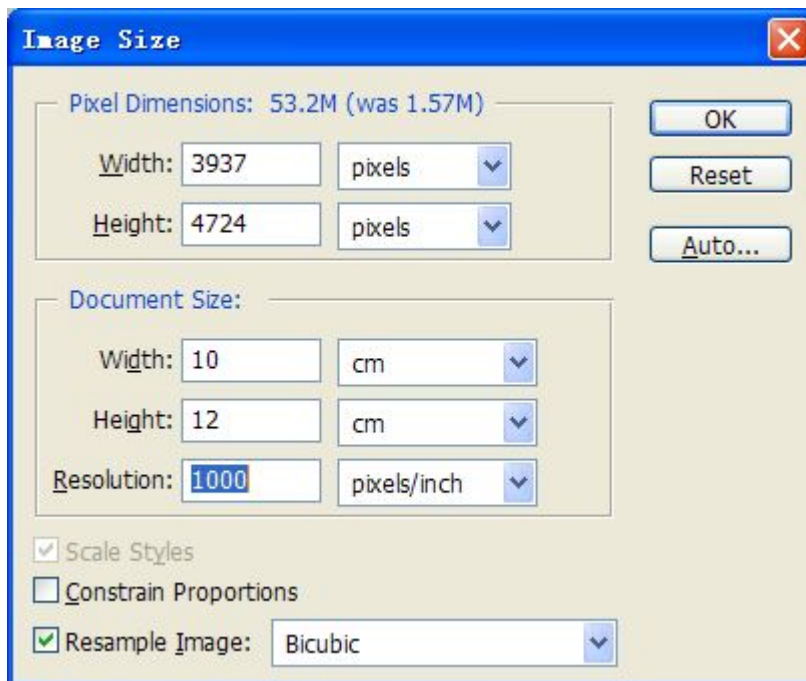

Figure 5-3
2、 In the column Document Size/ Height and Width, input the value you wanted, figure 5-3 followed;
Such as figure 5-3: the converted graph size is 10cm*12cm, the resolution is 1000 pixels per inch;